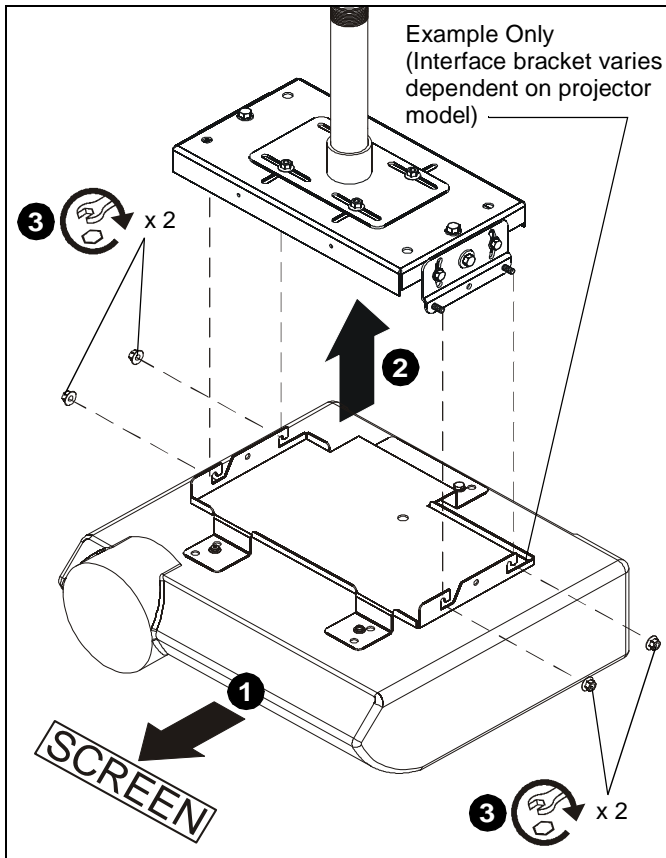

Figure 3
1. Orient projector with attached interface bracket so that it is square to the screen. (See Figure 3)
2. Lift the projector and install it to the four studs extending from the VCM housing. (See Figure 3)
3. Tighten the four 5/16" flange nuts. (See Figure 3)